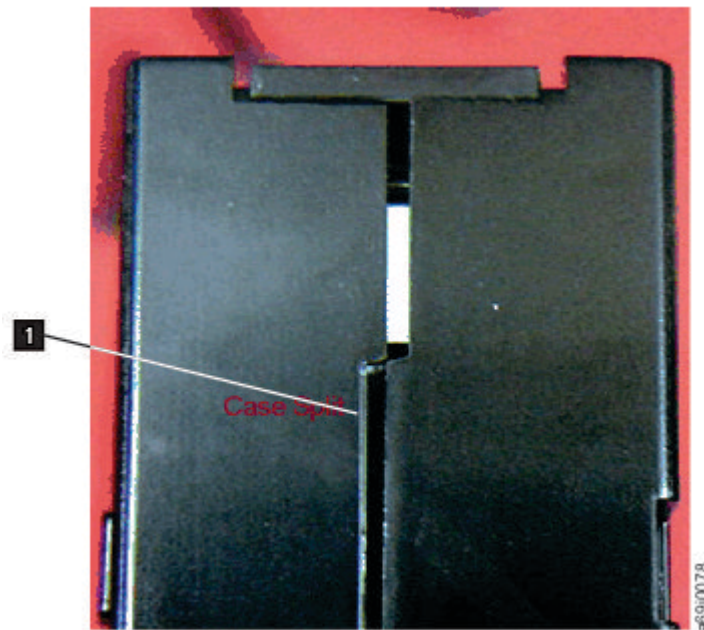

Figure 91. Checking for gaps in the seams of a cartridge
- Inspect the rear of the cartridge (the part that loads first into the tape load compartment) and ensure that no gaps appear in the seam of the cartridge case. . If gaps appear in the seam (see Figure 91), the leader pin might be dislodged.